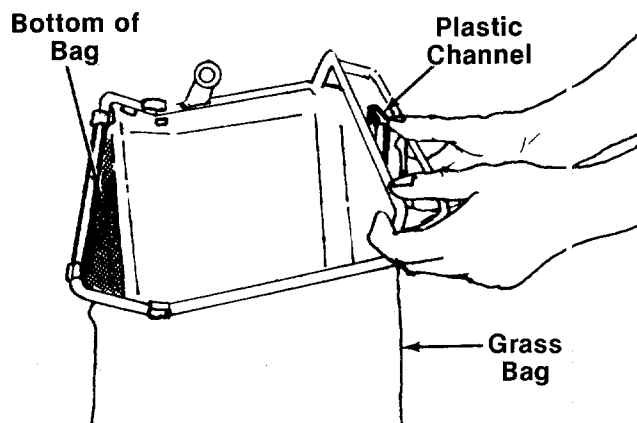

FIGURE 15.
- ← 4. Secure bag to frame by slipping plastic channels on bag over frame. See figure 15.